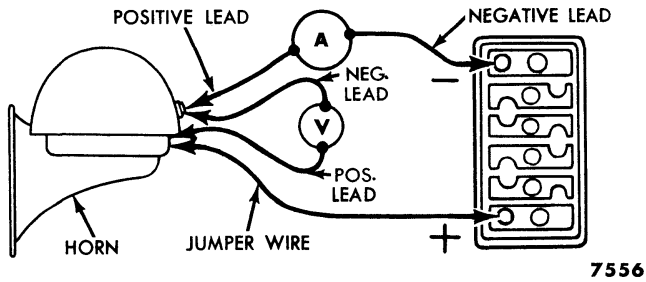
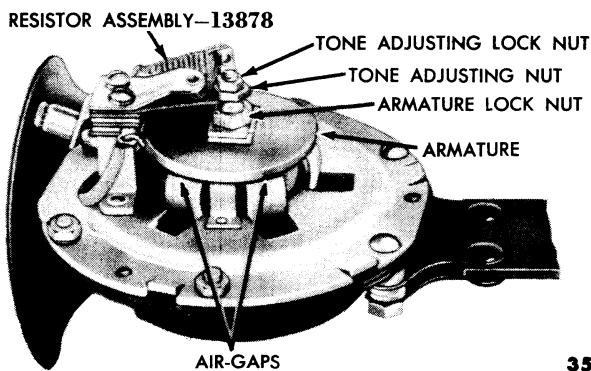

Fig. 20—Horn Current Draw Test
Fig. 21—Horn Adjustment
(1) **CURRENT DRAW TEST.** Connect a voltmeter and ammeter to the horn and a voltage supply as shown in fig. 20. The normal current draw for the horns at 12-12.6 volts is 9.2-9.6 amperes.
(2) **ADJUSTMENT.** Tone is adjusted by changing the contact tension (fig. 21). Connect the horn as shown in fig. 20. Back off the lock nut, and turn the tone-adjusting nut until the current is within the limits for the horn being adjusted. Tighten the lock nut, and recheck the current draw.